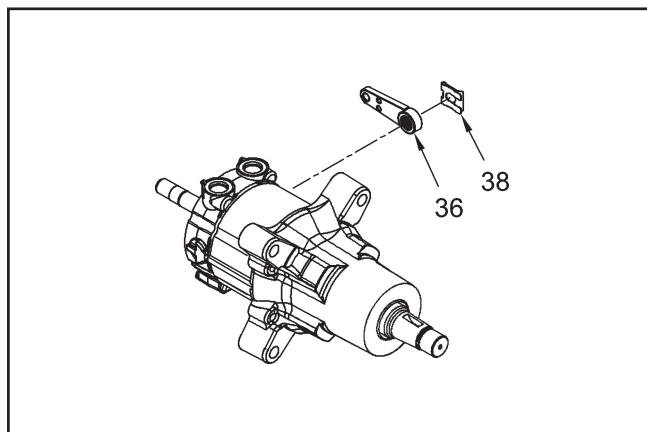
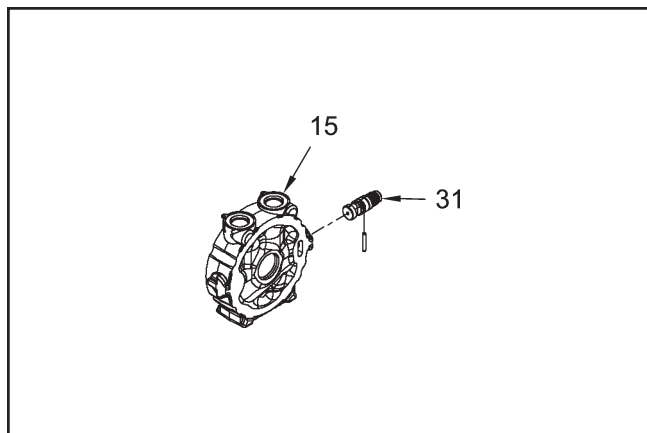

Figure 12
Figure 14
1. If the hub (56) has not been removed from the PRM®, remove the hex lock nut (55) with an impact wrench and discard. Remove the hub (56) and discard. If the axle shaft (34) turns during nut removal, manually apply the PRM brake actuating handle (36, Fig. 12) to prevent the axle from turning. Use a wheel or gear puller and the hub puller adapter, located in the seal kit, to remove the hub from the shaft.
9. To ease reassembly, mark the port block (15), and ring gear (23) prior to disassembly. Also mark the brake actuating handle (36, Fig. 12) and brake cam (31, Fig. 14).